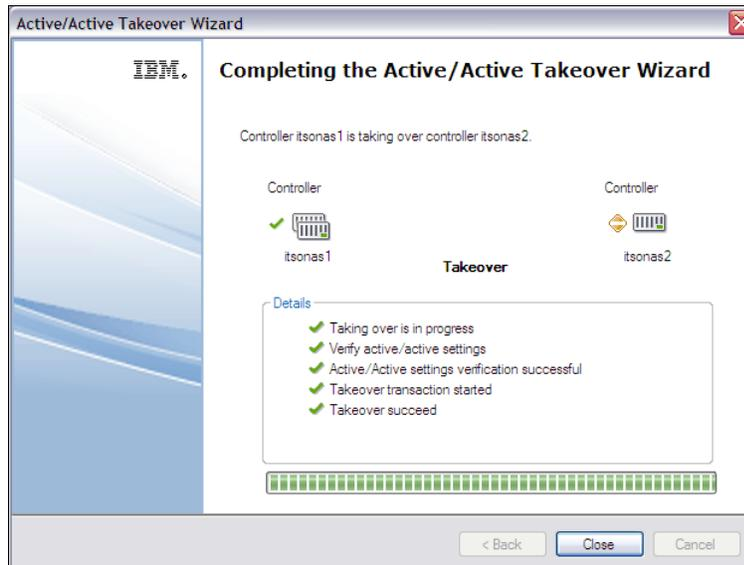

Figure 7-10 System Manager takeover successful
5. Figure 7-10 shows the Active/Active takeover wizard final step where takeover was run successfully. Click **Close** to continue.